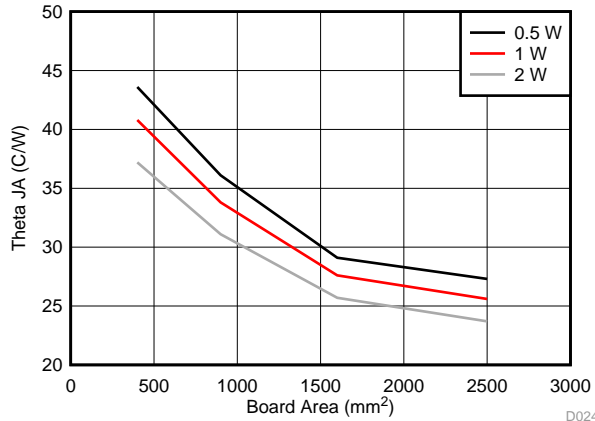

Figure 17.  $R_{\theta JA}$  versus Copper Board Area
It is easy to see that larger ambient temperatures (TA) and larger values of RθJA will reduce the maximum available output current. As stated in SPRA953, the values given in the Thermal Information table are not valid for design purposes and must not be used to estimate the thermal performance of the application. The values reported in that table were measured under a specific set of conditions that are never obtained in an actual application. The effective RθJA is a critical parameter and depends on many factors such as power dissipation, air temperature, PCB area, copper heat-sink area, number of thermal vias under the package, air flow, and adjacent component placement. The LM53603-Q1 utilizes an advanced package with a heat spreading pad (EP) on the bottom. This must be soldered directly to the PCB copper ground plane to provide an effective heat-sink, as well as a proper electrical connection. The resources found in Table 9 can be used as a guide to optimal thermal PCB design and estimating RθJA for a given application environment. A typical example of RθJA versus copper board area is shown in Figure 17. The copper area in this graph is that for each layer of a four layer board; the